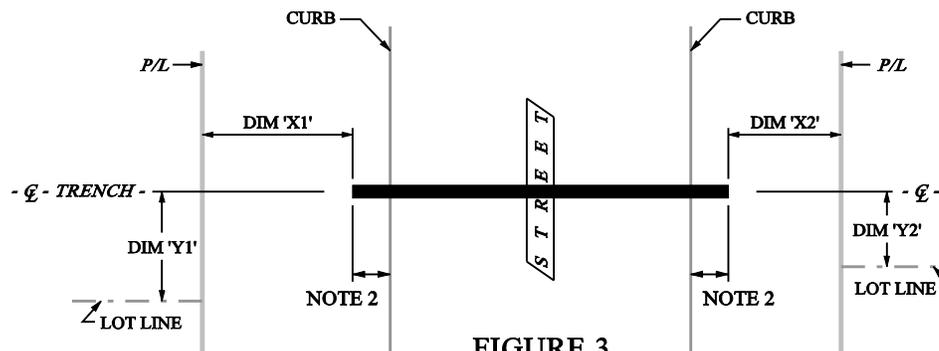

FIGURE 3
2. AT ROAD CROSSING, EXTEND DUCTBANK BEYOND THE CURB AS PER STD. 37-349. (SEE FIG. 3)